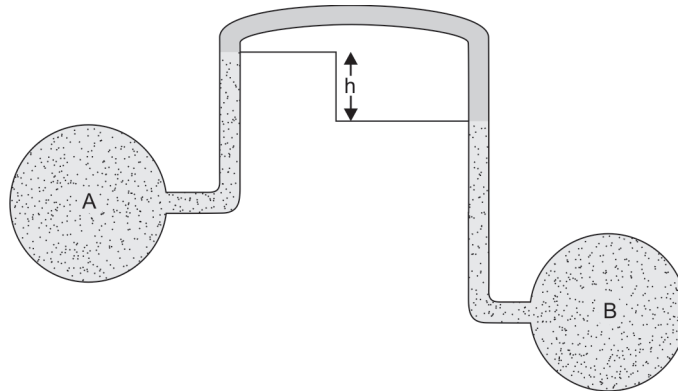

Fig. 1.10: Inverted U-tube manometer
d. Inverted U-tube manometer: It is used when the difference between the densities of the two liquids is small. 'A' and 'B' are points at different levels with liquids having different specific gravity. It consists of a glass tube-shaped like an inverted letter 'U' and seems similar to two piezometers connected end-to-end to which air is present at the center of the two limbs as shown in Fig. 1.10. As the two points in consideration are at different pressures the liquid raises in the two limbs. Air or mercury is used as the manometric fluid.